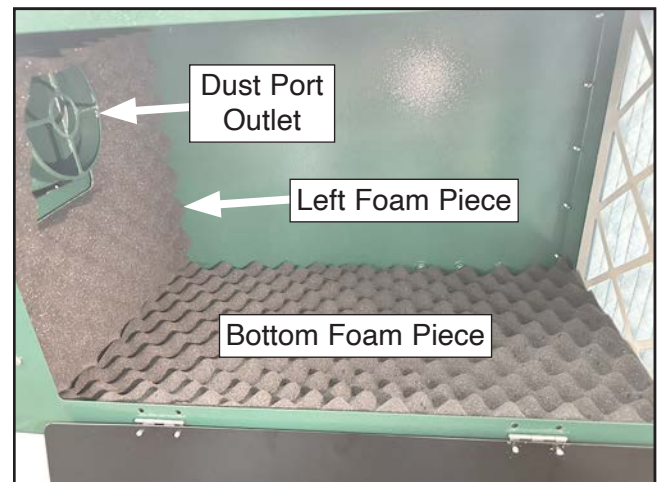

Figure 14. Left and bottom foam pieces applied to maintenance compartment panels.
11. Apply left foam piece to left panel, aligning cutout in foam with dust port outlet in maintenance compartment, as shown in **Figure 14**.
12. Apply bottom foam piece to bottom panel inside maintenance compartment, as shown in **Figure 14**.